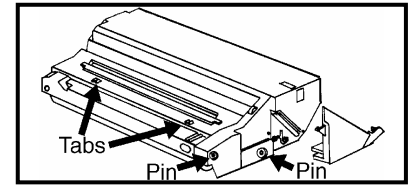

Figure 1
1. Remove the four outer pins on each end of the cartridge (Fig. 1).